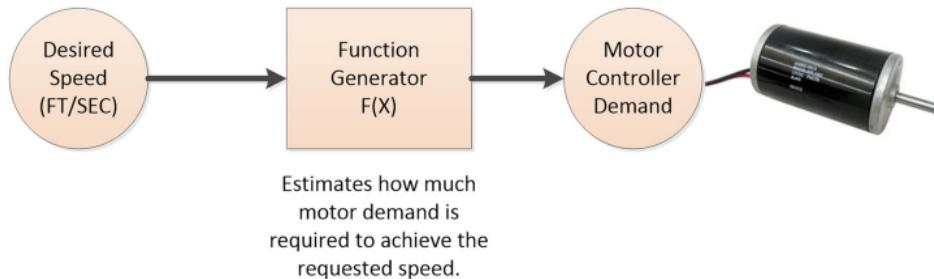

FIGURE 7.1 Block diagram of robot drive using open loop control.
The function diagram, Fig. 7.1, for open loop control shows that an output demand is calculated, "estimated", from an input of the desired result. In control system terminology the desired result is known as the Setpoint (SP), and the output demand is known as the Control Output (CO). The equation for open loop control is: